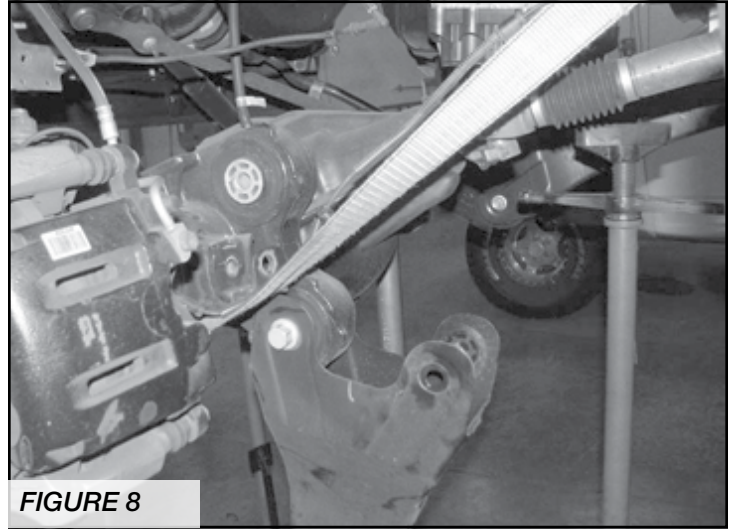

FIGURE 8
9. With the front axle still supported by the floor jack, remove both of the front factory radius arms from the factory frame mounts. Remove the upper bolt at the axle and allow the radius arm to hang. Save the factory hardware. **SEE FIGURE 8**